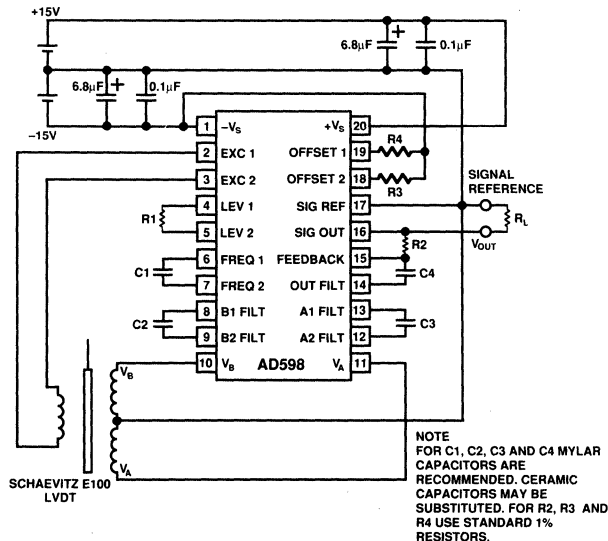
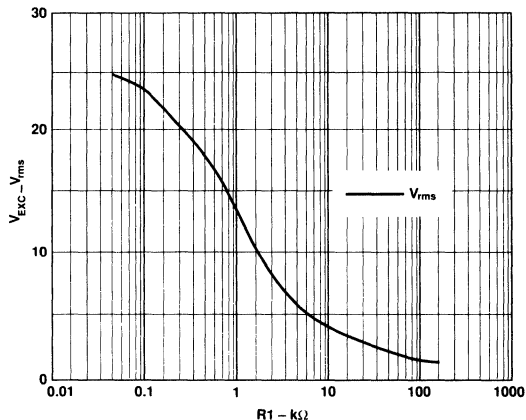
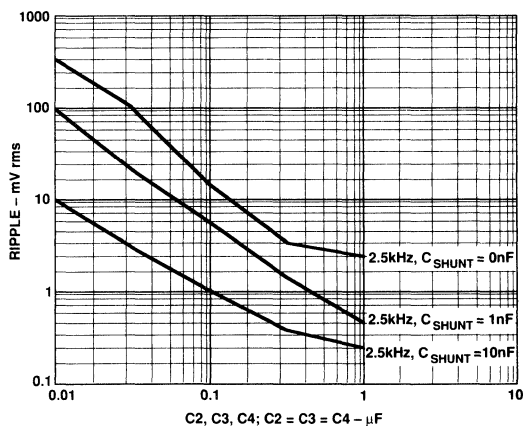

Figure 7. Interconnection Diagram for Dual Supply Operation
Figure 8. Excitation Voltage  $V_{EXC}$  vs.  $R1$
Figure 16. Output Voltage Ripple vs. Filter Capacitance
- 1VA and VB represent the Mean Average Deviation (MAD) of the detected sine waves. Note that for this Transfer Function to linearly represent positive displacement, the sum of VA and VB of the LVDT must remain constant with stroke length. See "Theory of Operation." Also see Figures 7 and 12 for R2.
- 8R1 is shown in Figures 7 and 12.
The AD598 can easily be connected for dual or single supply operation as shown in Figures 7 and 12. The following general design procedures demonstrate how external component values are selected and can be used for any LVDT which meets AD598 input/output criteria.
Figure 7 shows the connection method with dual  $\pm 15$  volt power supplies and a Schaevitz E100 LVDT. This design procedure can be used to select component values for other LVDTs as well. The procedure is outlined in Steps 1 through 10 as follows:
6. Referring to Figure 7, for  $V_S = \pm 15$  V, select the value of the amplitude determining component R1 as shown by the curve in Figure 8.
$V_{OUT}$  is measured with respect to the signal reference, Pin 17 shown in Figure 7.
C4, from Figure 7, are all equal and designated as a parameter in the figures. The response is approximately that of two real poles. However, there is appreciable excess phase at higher frequencies. An additional pole of filtering can be introduced with a shunt capacitor across R2, (see Figure 7); this will also increase phase lag.
When selecting values of C2, C3 and C4 to set the bandwidth of the system, a trade-off is involved. There is ripple on the "dc" position output voltage, and the magnitude is determined by the filter capacitors. Generally, smaller capacitors will give higher system bandwidth and larger ripple. Figures 16 and 17 show the magnitude of ripple as a function of C2, C3 and C4, again all equal in value. Note also a shunt capacitor across R2 shown as a parameter (see Figure 7). The value of R2 used was 81 kΩ with a Schaevitz E100 LVDT.